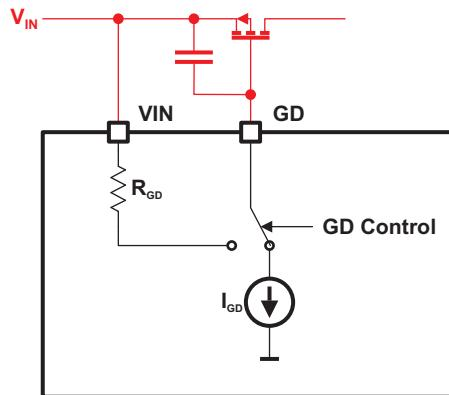

Figure 35. Gate Drive Internal Block Diagram
The gate driver (GD) pin can be used to control an external isolation switch. The TPS65149 supports PMOS devices positioned between V_{IN} and the boost converter's inductor (see Figure 35). The GD pin is pulled low by a 10 μ A current source when $V_{IN} > V_{UVLO}$ and EN=high and features an internal pull-up resistor to turn off the isolation switch when V_{IN} is removed or EN is low.